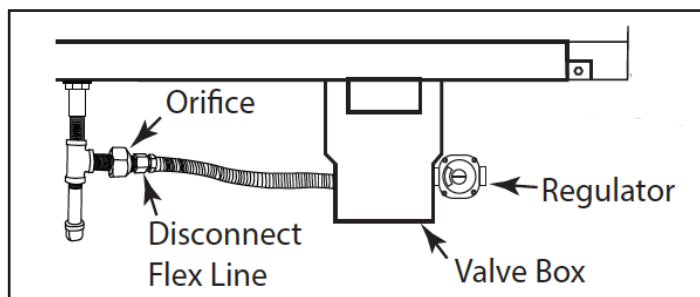

Fig. 2 Changing main burner orifice
Step 4: Locate the gas regulator the opposite side of the valve box. Using a regular size flat bladed screwdriver remove the aluminum cap and washer from the regulator. See Fig. 2.